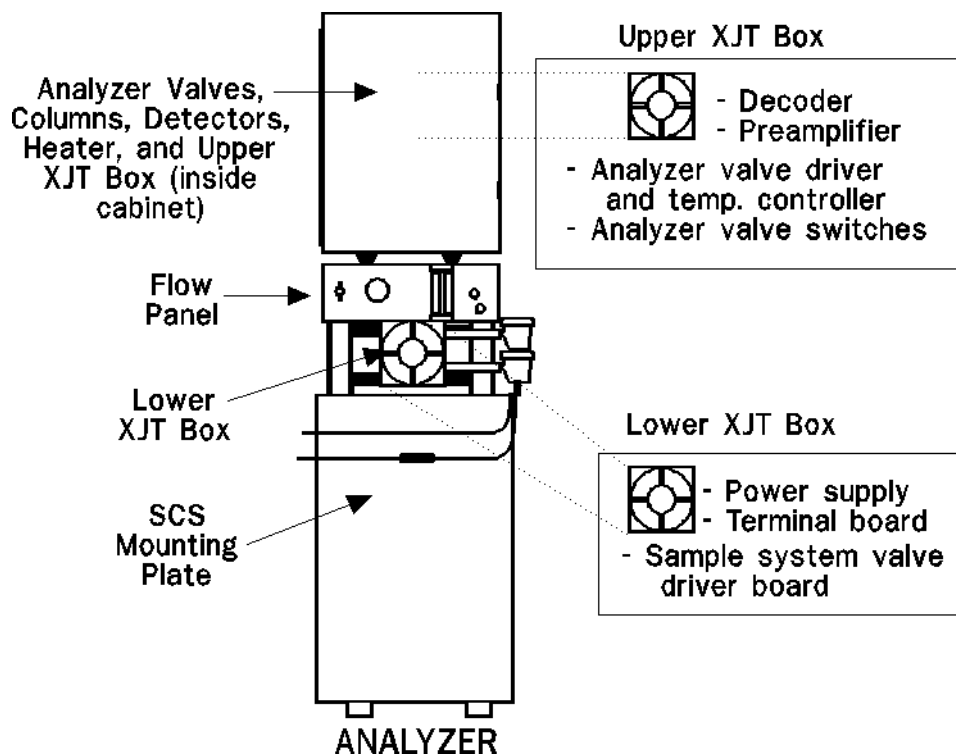

Figure 5-2. Location of Analyzer XJT Boxes
- (a) See Figure 5-2 for an illustration of the Analyzer XJT box locations.